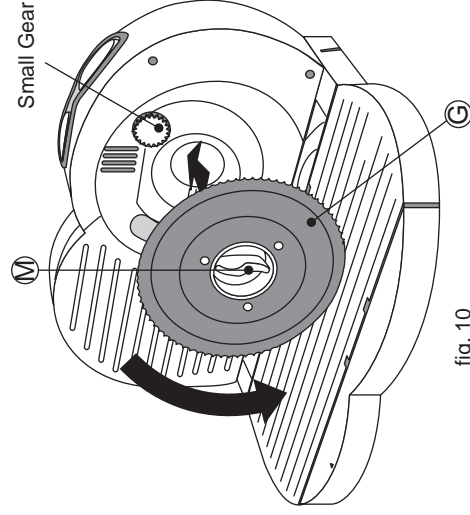

fig. 10
2. To reinsert the Blade Assembly (G), line up the tabs on the Blade Assembly (G) with the slots in the Small Gear. Once the Blade Assembly is seated with the Small Gear, turn the Blade Lock (M) anticlockwise to lock it in position. See fig. 10.